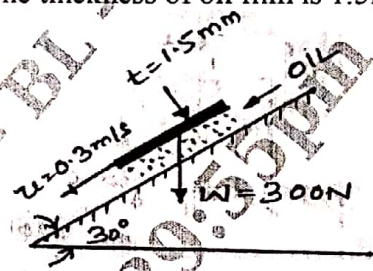

Fig.Q.1(b)
- b. Calculate the dynamic viscosity of an oil, which is used for lubrication between a square plate of size 0.8m × 0.8m and an inclined plane with angle of inclination 30° as shown in Fig.Q.1(b). The weight of the square plate is 300N and it slides down the inclined plane with a uniform velocity of 0.3m/s. The thickness of oil film is 1.5mm.